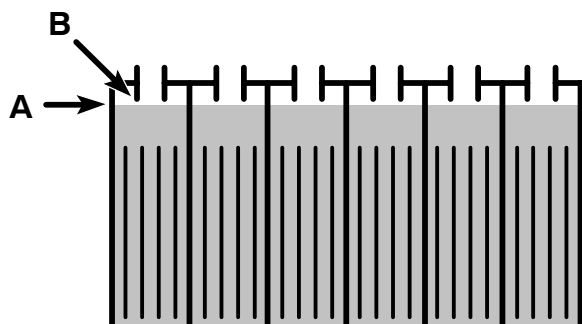

FIG. 57
- Check the electrolyte level (A) in each battery cell **after charging batteries**. The level should be approximately 1 cm (.375 in) from the bottom of the fill-port (B). Add distilled water if needed (Figure 57). **DO NOT OVERFILL.**